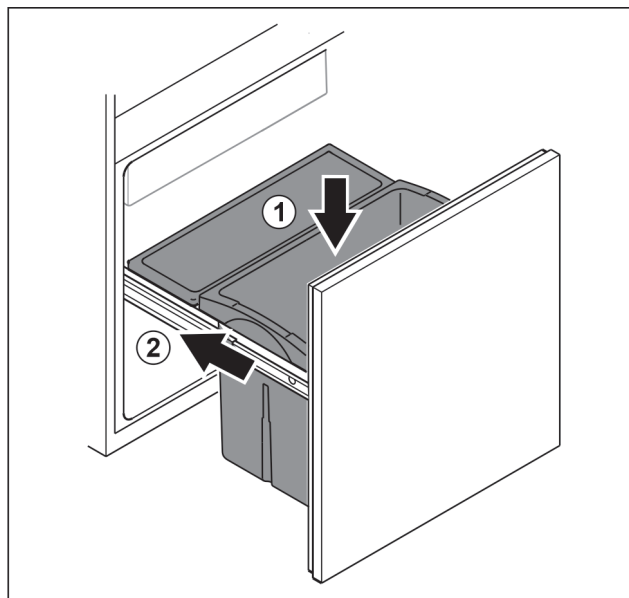

Fig. 104
- Insert drawer from above. Fig. 104 (1)
- Slide in pull-out unit. Fig. 104 (2)